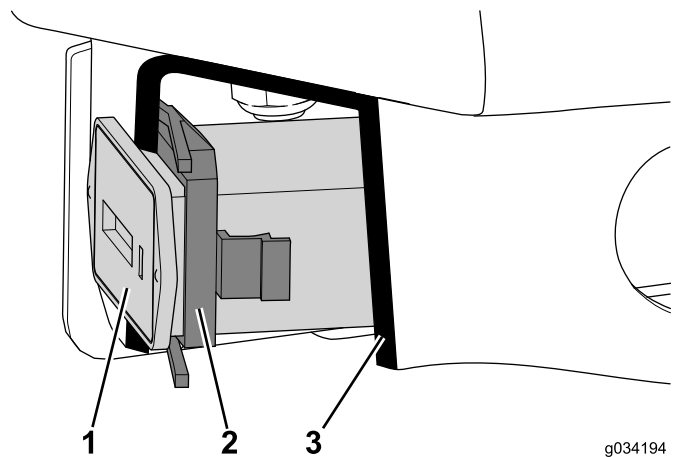

Figure 12
3. Remove the retainer that secures the hour meter from the console assembly, if equipped (Figure 12).